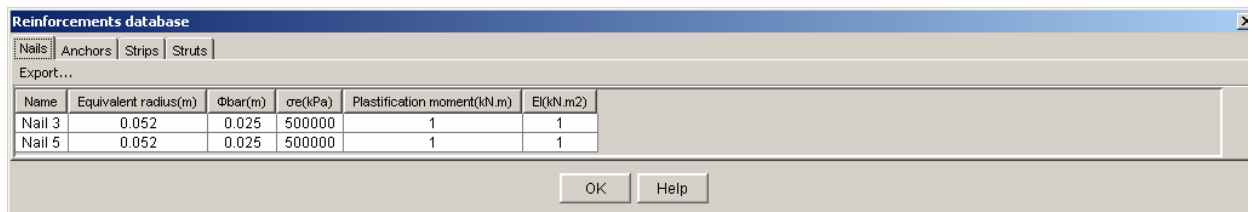

Figure 70: reinforcements database
- with the "Reinforcements database" item of the "Options" menu: this option directly activates the wizard in a separate window (Figure 70), and enables to view (only) the reinforcements stored in the global database.